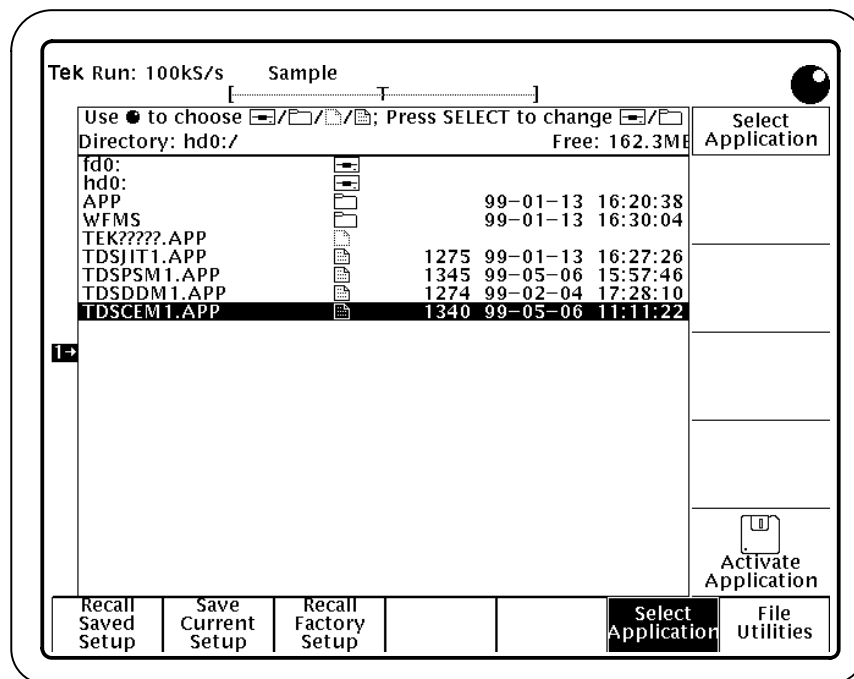

Figure 5: Starting the application
2. Use the general purpose (GP) knob to select hd0:, and press SELECT. See Figure 5.